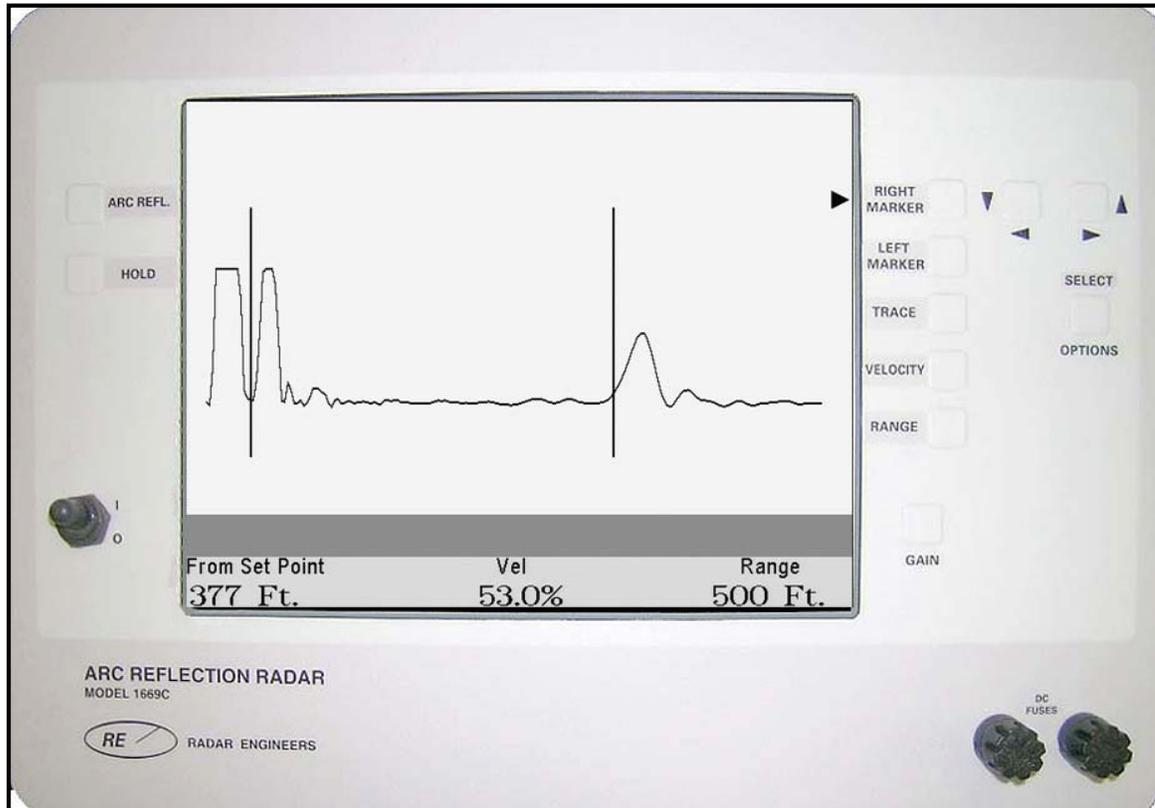

Figure 1
4. DETERMINE DISTANCE WITH THE MARKERS - Distance measurements are displayed in the lower left portion of the display. The distance shown there represents the distance between the Left Marker and the Right Marker. See Figure 1. (If Auto Range were enabled the right marker would automatically move to the open upward blip.)